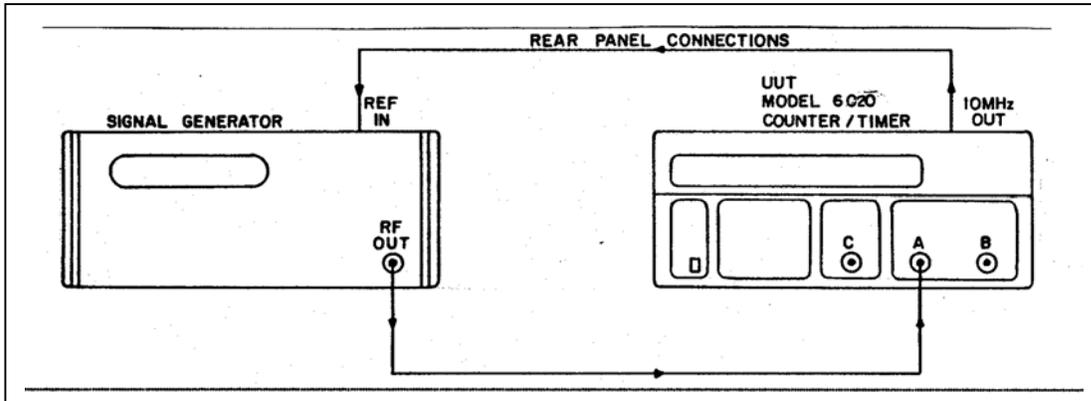

Figure 5-5. Channels A and B Sensitivity Test Set-up.
1. Connect the test equipment as described in Figure 5-5.
9. Modify the connections in Figure 5-5 above so that the synthesizer will now be connected to Channel B. Select [FREQ B]